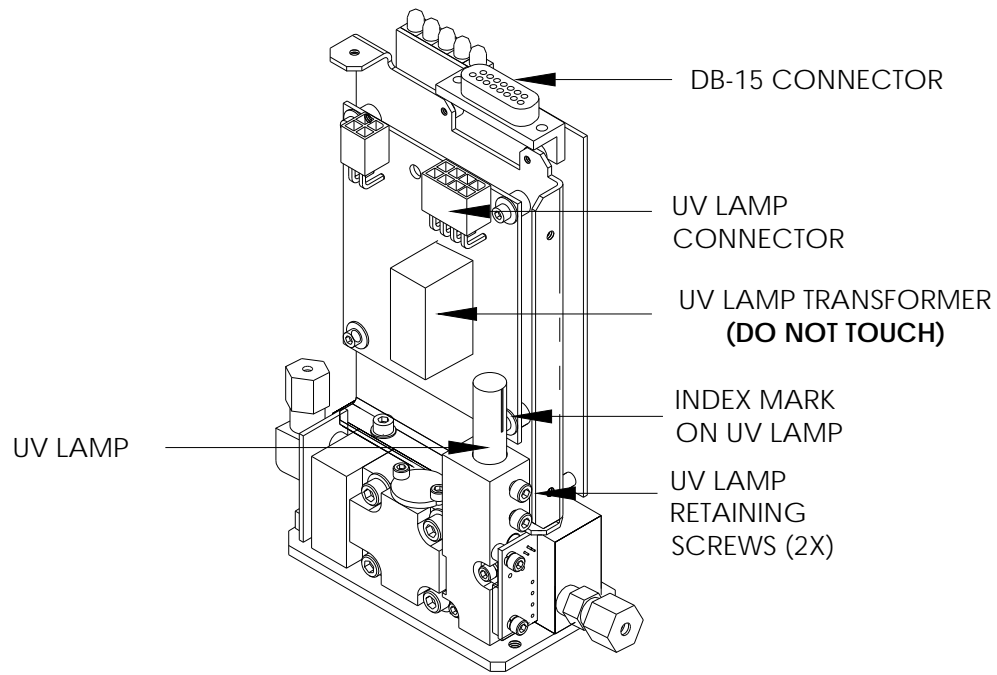
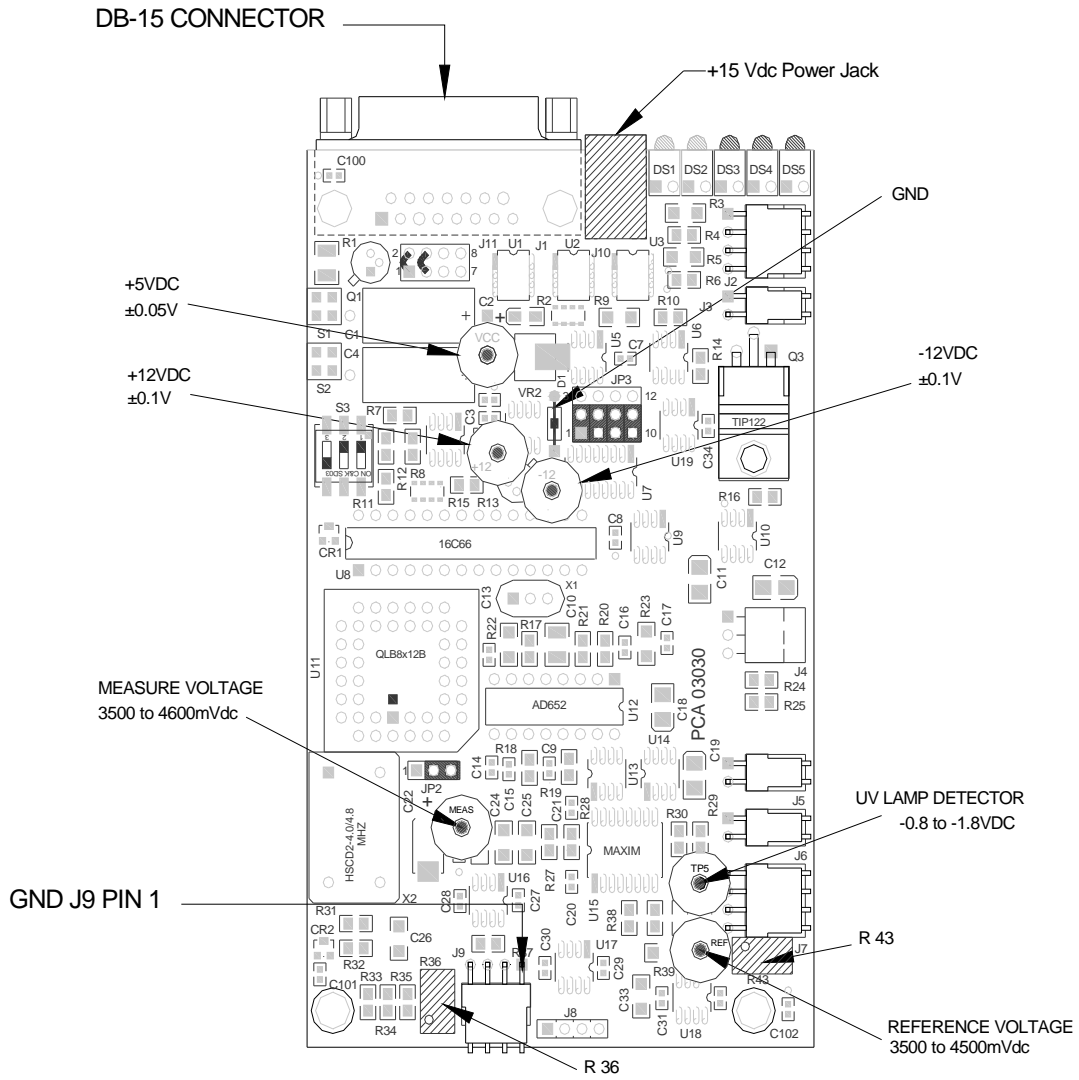

Figure 2
Figure 3
5. Apply +15VDC Power to J10 (+15 VDC Power Jack) or through DB-15 connector (Figure 3).
- a. Measure the DC Voltage from GND J9 pin 1 to TP REF (Figure 3).
- a. Measure the DC Voltage from GND J9 pin 1 to TP MEAS (Figure 3).
1. Monitor the DC Voltage from GND J9 pin 1 to TP 5 (Figure 3). This voltage must read between -0.8 and -1.8 Vdc. If the voltage does not read correctly, loosen the two UV lamp retaining screws (Figure 2) and rotate the UV lamp (avoid touching the transformer on the UV lamp power supply) until this voltage (-0.8 to -1.8 Vdc) is reached and then tighten the screws back down again. If unable to get the voltage below -0.8 Vdc (-0.8 V to -1.8 V), the lamp must be replaced. If a positional adjustment lowers TP5 voltage to below -0.8 V, adjust the Reference and Measure voltages as follows.
- c. Measure the DC Voltage from GND J9 pin 1 to TP MEAS (Figure 3).
1. Remove +15VDC Power to J10 (+15 VDC Power Jack) or DB-15 connector (Figure 3).
2. Loosen two UV Lamp Retaining screws (Figure 2) approximately one turn counter-clockwise.
3. Press in on the Connector Release (Figure 2) and pull up on connector to disconnect lamp.
5. Install the new UV lamp, make sure that the UV lamp is all the way down in the UV lamp block and the index mark or inverted "V" notch is aligned as shown in Figure 2.
7. Apply +15VDC Power to J10 (+15 VDC Power Jack) or through DB-15 connector (Figure 3).
9. Check the DC Voltage from GND J9 pin 1 to TP 5 (Figure 3). This voltage must read between -0.8 and -1.8 Vdc. If the voltage does not read correctly then loosen the two UV lamp retaining screws and rotate the UV lamp until this voltage is reached and then tighten the screws back down again. If this voltage can not be reached then contact API for further assistance.
- e. Measure the DC Voltage from GND J9 pin 1 to TP REF (Figure 3).
- f. Measure the DC Voltage from GND J9 pin 1 to TP MEAS (Figure 3).
15. Remove +15VDC Power to J10 (+15 VDC Power Jack) or from DB-15 connector (Figure 3).
1. Apply +15VDC Power to J10 (+15 VDC Power Jack) or through DB-15 connector (Figure 3).